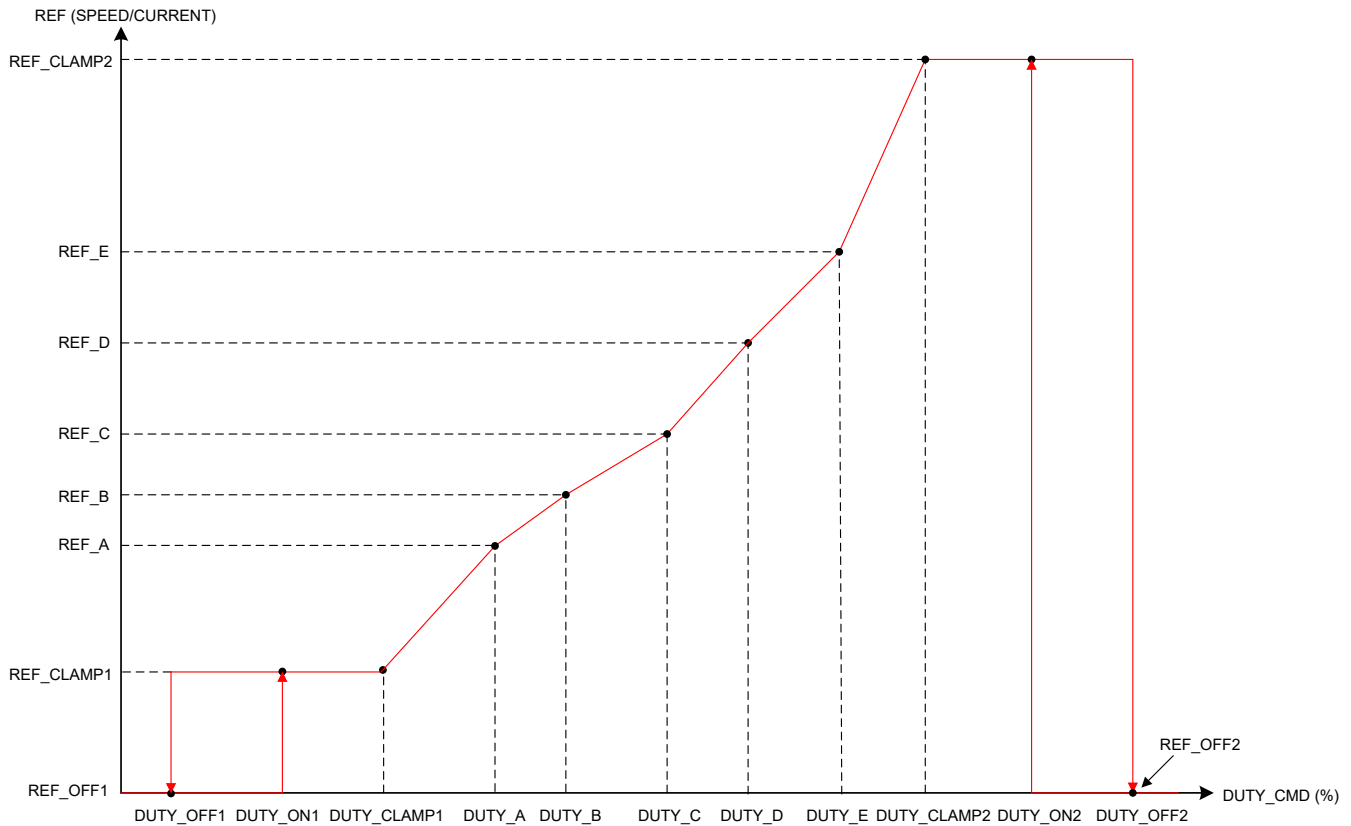
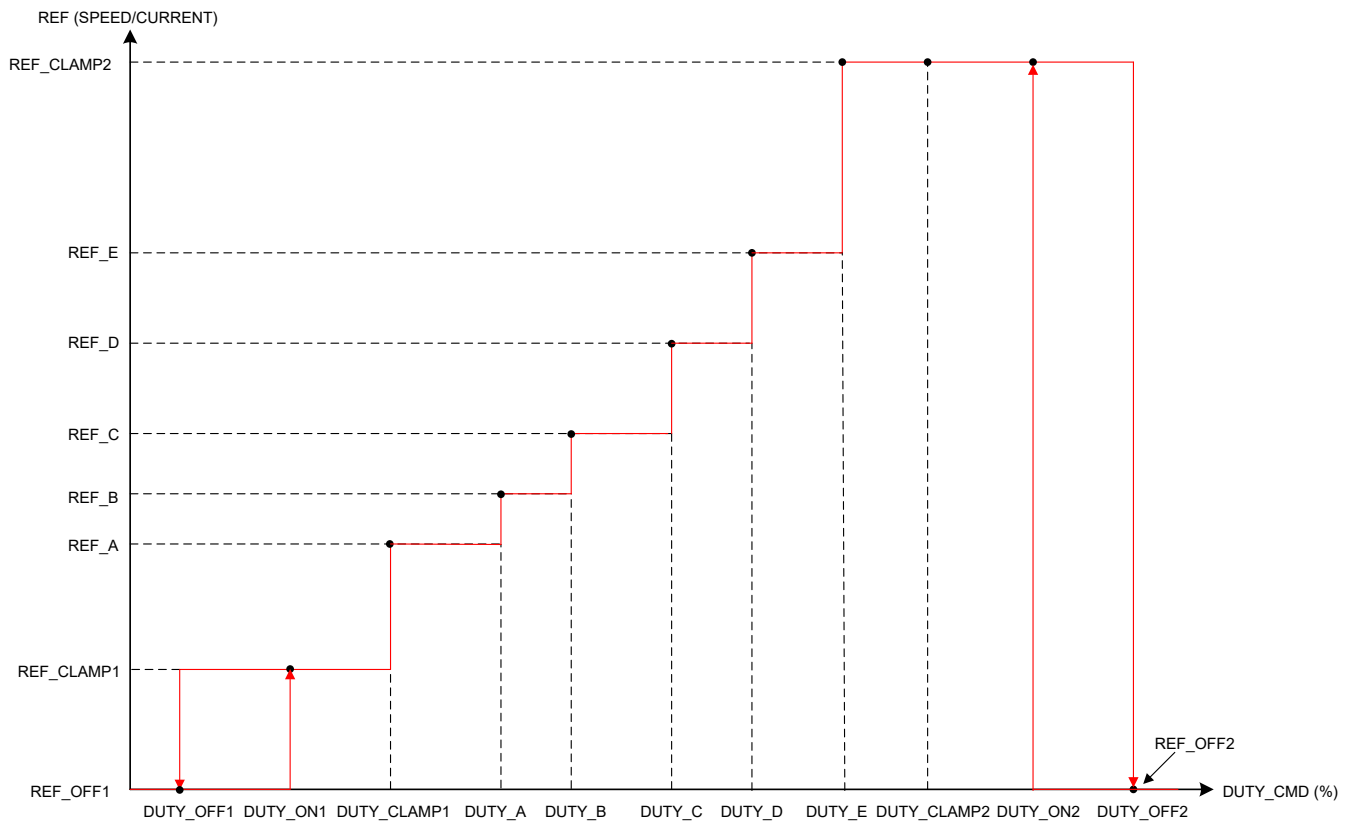
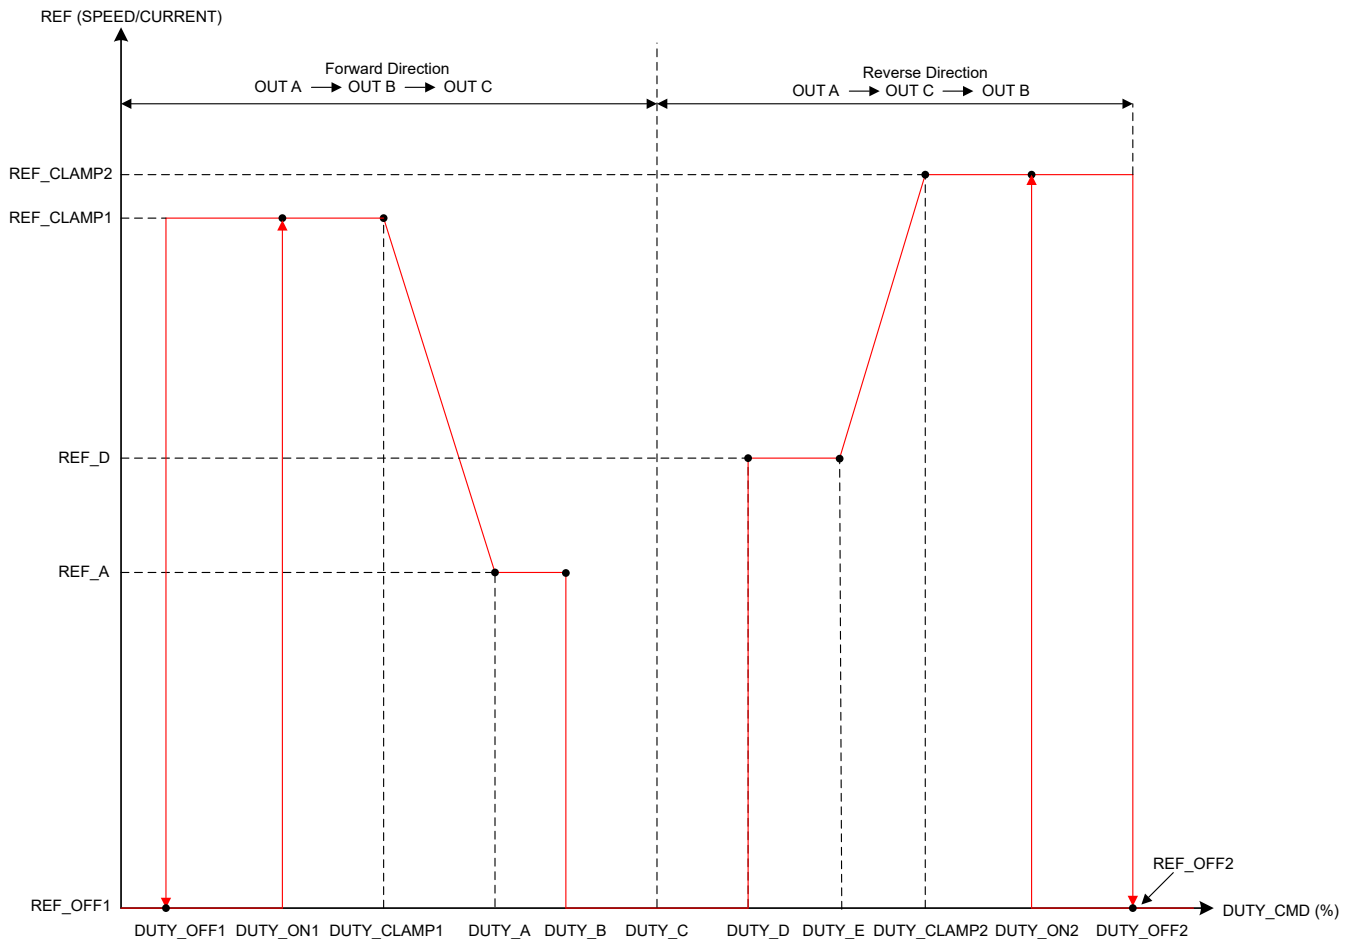

图 7-18. Linear Reference Profile
图 7-19. Staircase Reference Profile
图 7-20. Forward-Reverse Reference Profile
- The reference value in 图 7-18, 图 7-19, 图 7-20 is decided by control mode (SPEED_LOOP_DIS) as follows,
- Current control mode (SPEED_LOOP_DIS = 1b): $\text{CURRENT_REF (A)} = (\text{REF_x}/255) \times \text{ILIMIT (A)}$
- DUTY_OFF1 and DUTY_ON1 configure a hysteresis between reference levels, REF_CLAMP1 and REF_OFF1 as shown in 图 7-18.
- DUTY_A configures the duty command for reference REF_A. The reference changes from REF_CLAMP1 to REF_A linearly between DUTY_CLAMP1 and DUTY_A. DUTY_A to DUTY_E has to be in the same order as shown in 图 7-18.
- DUTY_OFF2 and DUTY_ON2 configure a hysteresis between reference levels REF_CLAMP2 and REF_OFF2 as shown in 图 7-18.
- DUTY_OFF1 and DUTY_ON1 configure a hysteresis between reference levels REF_CLAMP1 and REF_OFF1 as shown in 图 7-19.
- DUTY_A configures the duty command for reference REF_A. There is a step change in reference from REF_CLAMP1 to REF_A at DUTY_CLAMP1. DUTY_A to DUTY_E has to be in the same order as shown in 图 7-19.
- DUTY_OFF2 and DUTY_ON2 configure a hysteresis between reference levels REF_CLAMP2 and REF_OFF2 as shown in 图 7-19.
- DUTY_OFF1 and DUTY_ON1 configures a hysteresis between reference levels REF_CLAMP1 and REF_OFF1 as shown in 图 7-20.
- DUTY_A configures the duty command for reference REF_A. The reference changes linearly between DUTY_CLAMP1 and DUTY_A. DUTY_A to DUTY_E has to be in the same order as shown in 图 7-20.
- DUTY_OFF2 and DUTY_ON2 configure a hysteresis between reference levels REF_CLAMP2 and REF_OFF2 as shown in 图 7-20.